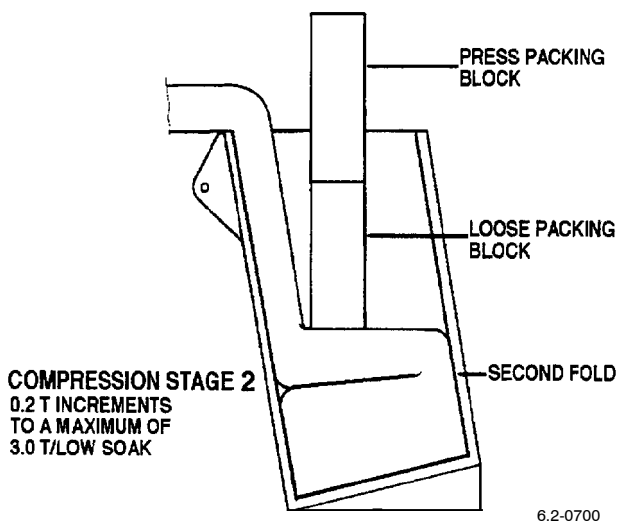

Figure 50. Compressing Deployment Sleeve - Stage 2
a. Fold the deployment sleeve to the rear and push down into the container as far as possible by hand, ensure that the fold is butted against the forward inside of the container (Figure 50).
b. Position the loose-large packing block (MBEU-149516) in the container on the deployment sleeve, slightly forward of center. Align the support box and packing blocks and raise the press table until the blocks are just in contact (Figure 50).